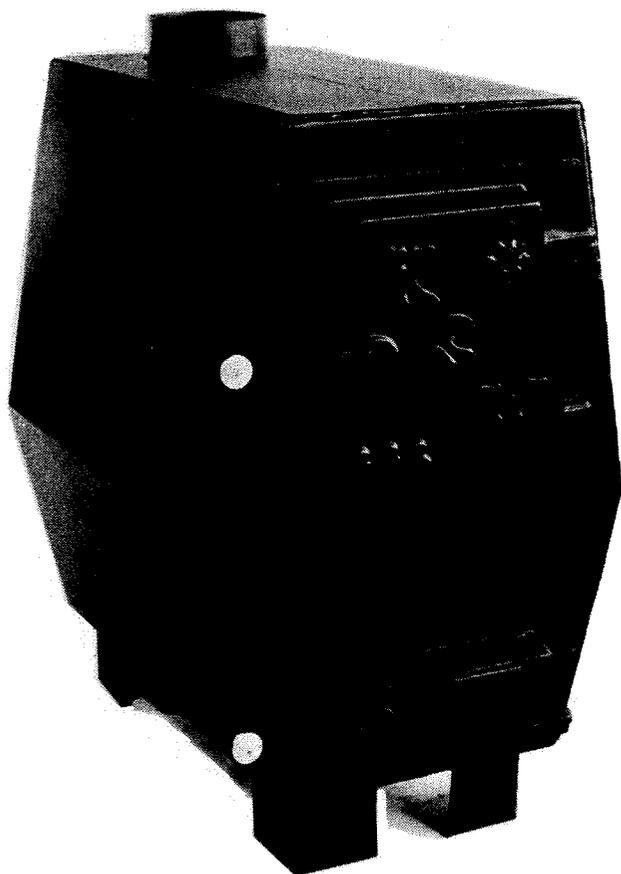

Fig. 73. Kickapoo Standard Model BBR-B wood-burner.
16. **Kickapoo Stove Works, Ltd.** (manufacturer), Box 127-46, La Farge, WI 54639. Parlor model has interior surfaces lined with angled steel ribs. Footrests added. Exterior surface of hull has been finely ground to a seamless finish. Each model has a high-temperature grate, an ash pan, and separate door for ash removal. Recessed flue. See Fig. 73 and Table 9.